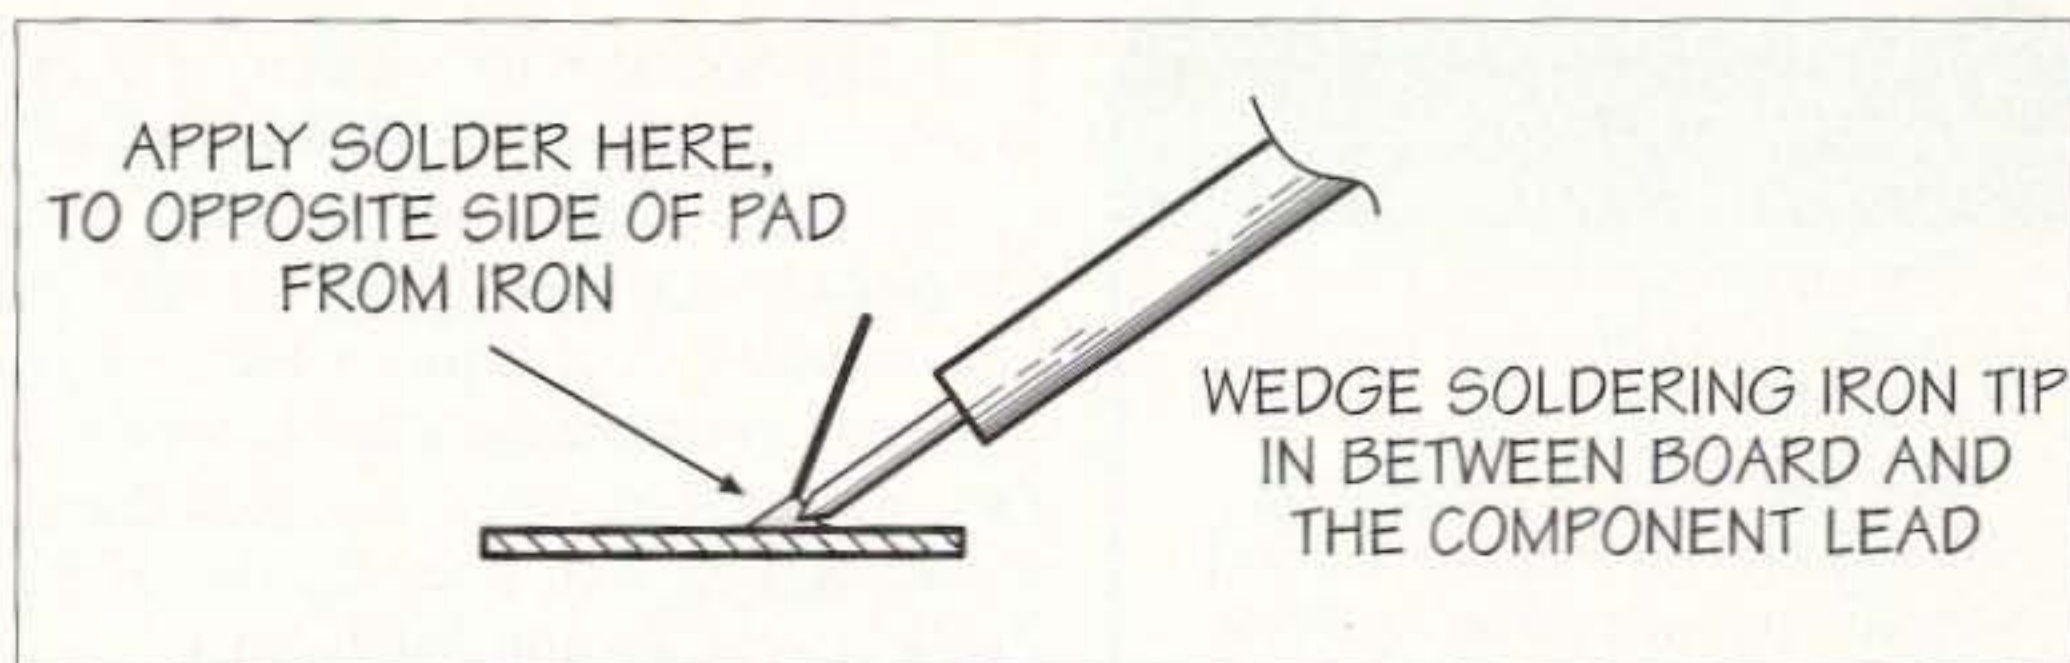
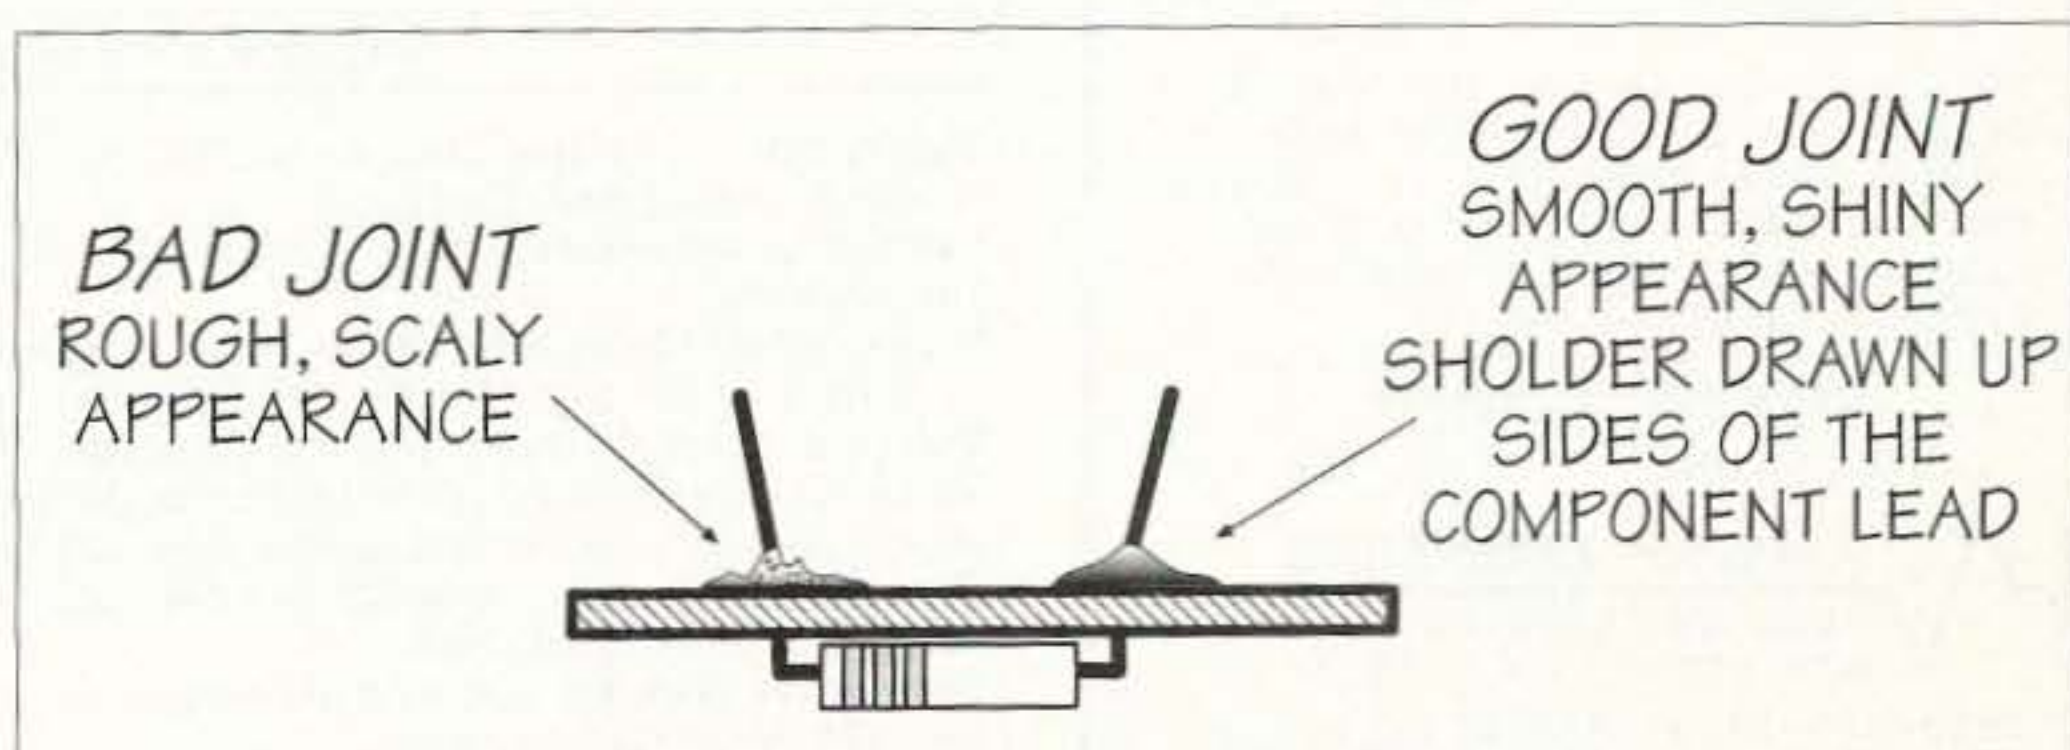

Fig. 1. Placing the soldering iron on the work.
Fig. 2. Examine the work closely.
4. Solder the connection. Tin and wipe the tip of the iron as described above. Apply the tip to one side of the pad, wedging the tip against the lead where it protrudes from the hole, as shown in **Fig. 1**. Count to three and apply solder to the opposite side of the pad, and it should flow across the pad, around the lead, and slightly up the lead from the surface of the board. Do *not* apply the solder to the tip of the iron, as it will melt instantly and may flow onto the joint without bonding properly. **Fig. 2** shows a good joint and a bad joint. The bad joint is often called a "cold" joint because it is most often caused by inadequate heating of the joint. It doesn't just *look* ugly. If I can coin a new phrase here, it's "electrically ugly," offering no electrical connection between the two surfaces, or a weak one which is bound to fail, or (worst of all) an intermittent fault.
connection is sound and conforms to the illustration in **Fig. 2**. Make sure solder hasn't flowed onto any adjacent pads or tracks. If it has, remove it immediately (see "unsoldering," below).